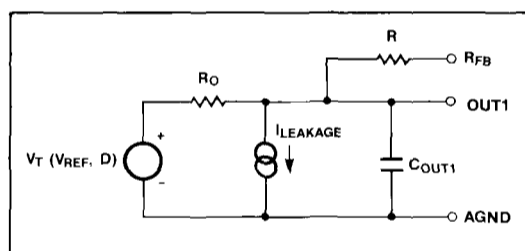

Figure 2. MX7548 Equivalent Analog Output Circuit
Figure 2 shows the equivalent circuits for the MX7548 analog section. The  $I_{LEAKAGE}$  current sources represent junction and surface leakage currents. The equivalent output resistor of the DAC is  $R_o$ , which varies with digital input code from  $0.8R$  to  $2R$  (infinite at zero code), where  $R$  is typically  $11k\Omega$ . Capacitor  $C_{OUT1}$  represents the capacitances of the switches used in the R-2R ladder. When inputs are switched from low to high, the capacitance at OUT1 changes from about 40pF to 100pF. This capacitance is code-dependent and is a function of the number of ON switches that are connected to the output.  $V_T(V_{REF}, D)$  is the equivalent voltage source controlled by  $V_{REF}$  and the digital input code (D).